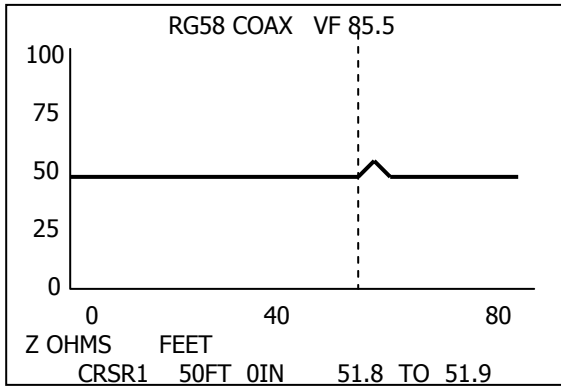

Figure 1
2. A barrel connector with greater or lesser impedance than that of the two cable's being connected will display either a small upward deviation for greater impedance or a small downward deviation for lesser impedance. See Figure 1 depiction of a 75Ω barrel connector connecting two 50Ω sections of coax cable.